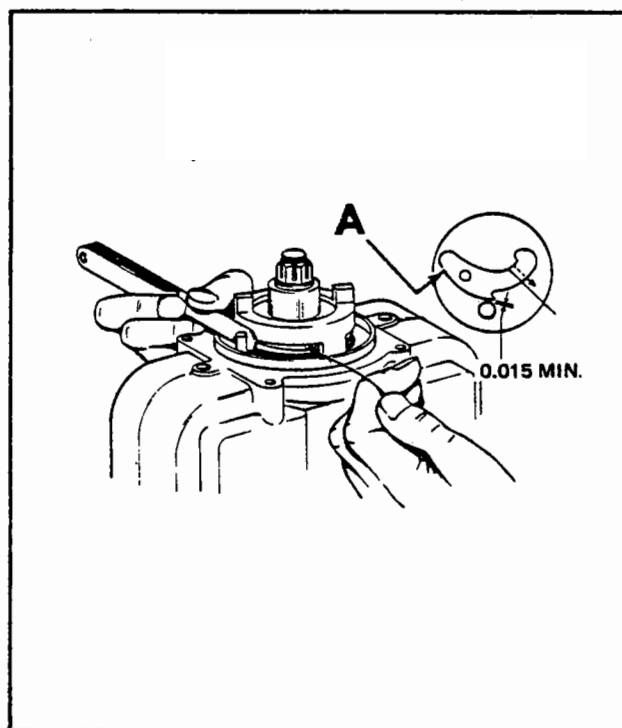

Figure 74-11. Checking Flyweight to
B. Hold the magneto as shown in Figure 74-11. Pull the heel of the flyweight outward with the fabricated hooked wire and make certain that a feeler gauge of 0.015 of an inch minimum thickness will pass between the stop pin and the highest point of the flyweight.
A true and accurate check of the clearance between the flyweights and stop pins can only be obtained by pulling the flyweight outward as described. Do not attempt the check by pushing in on the flyweight at point "A" of Figure 74-11.